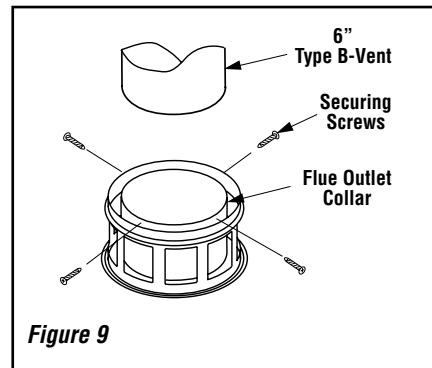

Figure 9
- A. Connect a 6" (152 mm) Type B vent system to the appliance flue collar with four (4) No. 8 sheet metal screws (**Figure 9**) and install the remainder of the Type B vent to the outside.